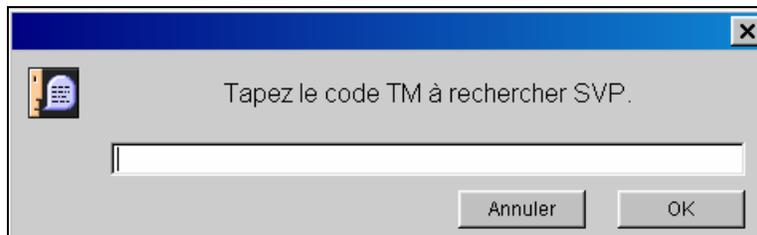

Figure 6: Entering the TM code
**Saisir un T.M. codifié** This button allows the user to enter a known TM code into the estimate, without having to search for it in the operation times catalogue. Click on the **Enter a coded TM** button, a dialogue box appears (figure 6).